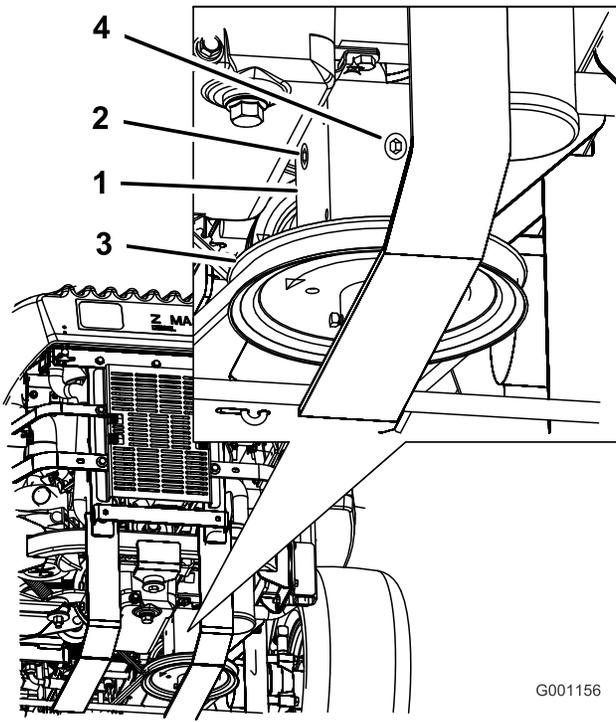

Figure 79
3. Remove the side or rear plug on the gearbox (Figure 79).